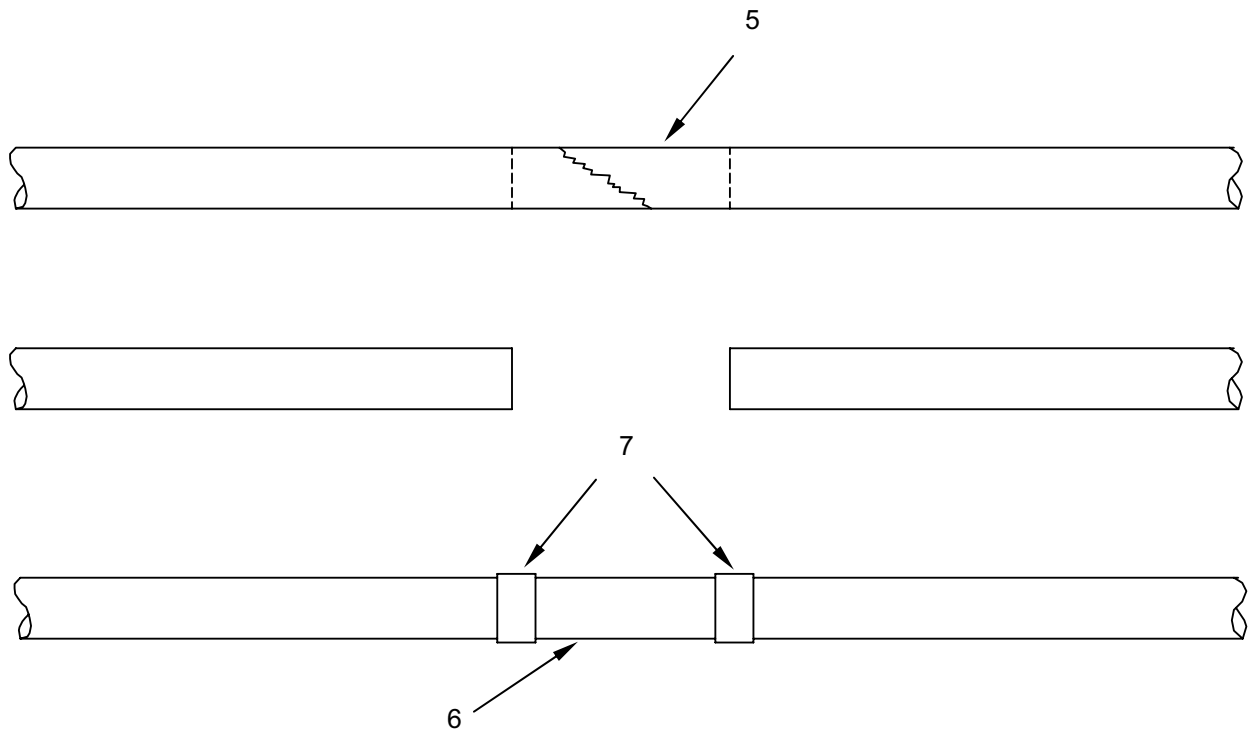

Figure 3. Repair the PVC Plumbing.
3. Cut out damaged CPVC pipe section (**Figure 3, Item 5**) or fitting.
5. Cut replacement pipe section (**Figure 3, Item 6**) as necessary to fit.
6. Install pipe section (**Figure 3, Item 6**), fittings, and couplings (**Figure 3, Item 7**) as necessary, and cement in place.